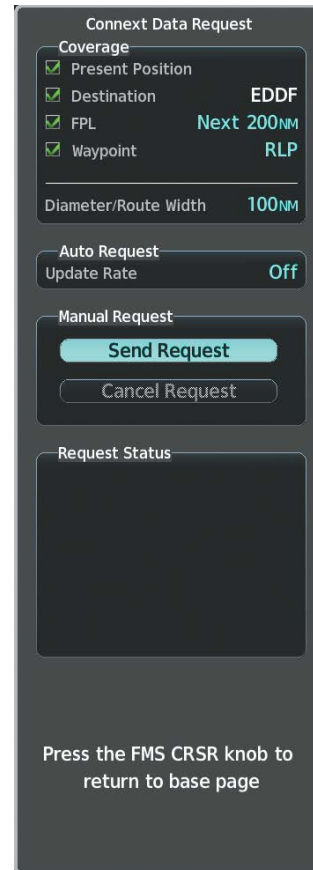

Figure 6-8 Connxt Data Request Window
- 4) Turn the large **FMS** Knob to highlight the desired coverage option(s) and press the **ENT** Key to show or hide a green check mark to select one or more of the following coverage selections (Figures 6-8, 6-9):